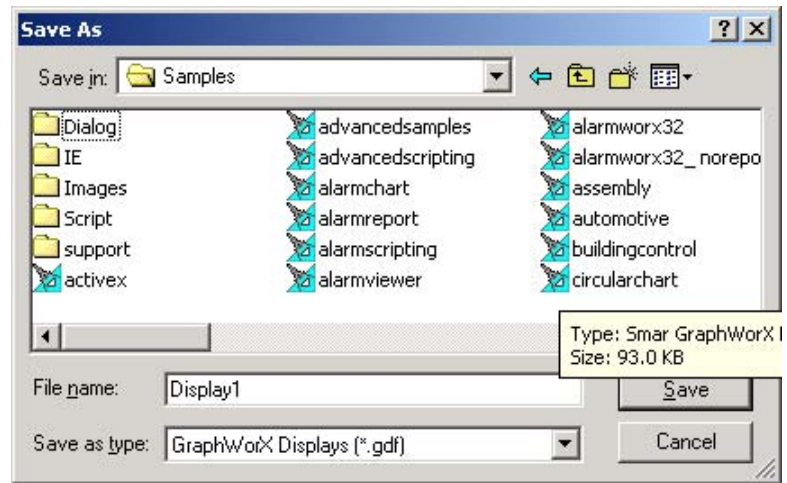

Figure 4.1. Saving the Display As a Non-VBA File
2. After you have either created a new display file or opened an existing file, select **Save As** from the **File** menu. The **Save As** dialog box opens, allowing you to specify the name and location of the file you are about to save. Type a name for the new file in the **File Name** field. It is important that, when saving your file, you select "GraphWorX Displays without VBA (*.gdf)" in the **Save as Type** field, as shown in **Figure 4.1**, because the Web Publishing Wizard does not support Microsoft Visual Basic for Applications (VBA). Click the **Save** button to save the current file.